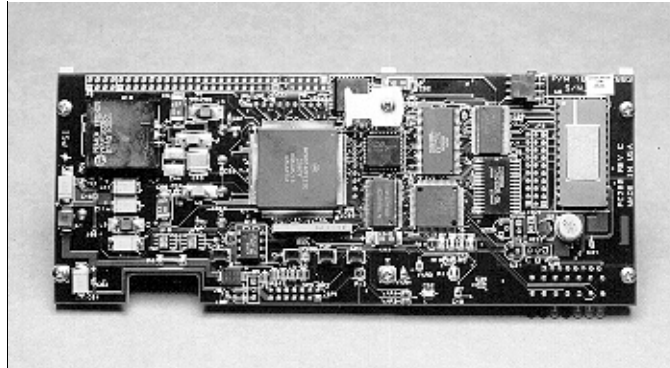

Figure 5.3
- (1) Disassemble the module as described in **Section 5.1.2**.
- (2) Carefully remove any attached wiring harnesses from connectors P1, P3, and P6 of the PC-280 board. In the 9016, this will require cutting one nylon tie-wrap attached to the center mounting bracket.
- (3) Remove the three (3) 2-56 Phillips head screws securing the PC-280 mounting brackets to the top plate. These screws will be in line with the PC-280 LEDs that protrude through the top plate. Carefully lift the board out of the top panel. See **Figure 5.3**.